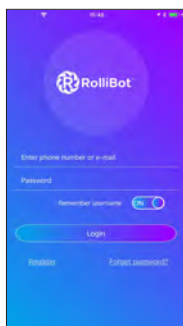

fig.1
Step 2. Register for an account and return to the app (fig.1).